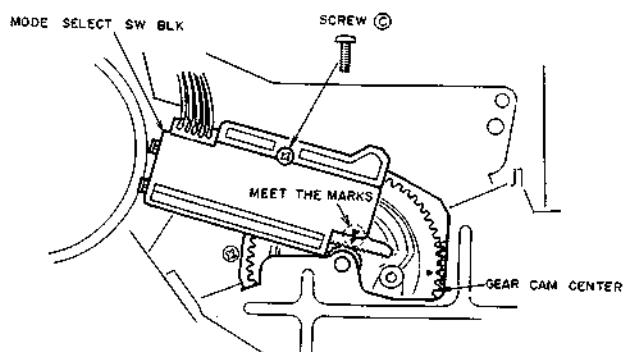

Fig. 4-14
- 10) Meet the marks of MODE SELECT SW and attach the MODE SELECT SW BLK onto the LOADING MECHA BLK as shown in Fig. 4-14. Tighten the MODE SELECT SW BLK with a screw ④.